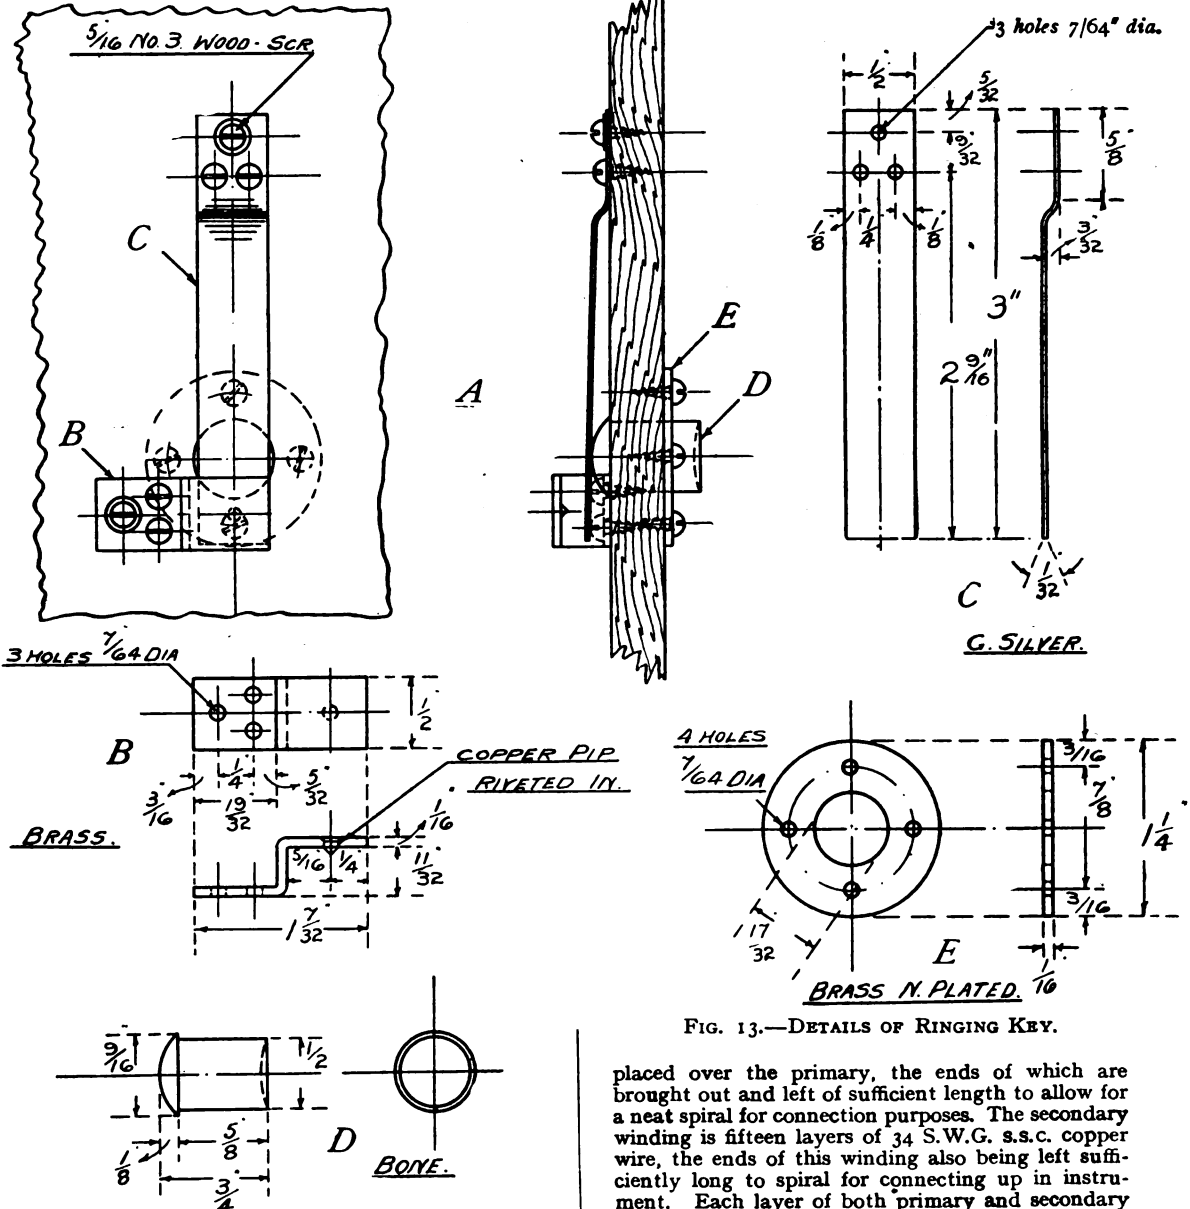

FIG. 13.—DETAILS OF RINGING KEY.
The complete key is shown in A, Fig. 13, and consists of German silver spring (C), plunger (D), brass bracket (B), and brass escutcheon (E). The brass bracket B can be made from sheet brass bent to drawing, with a copper or silver pip riveted in to give good electrical contact. The finish can be either dull plated or lacquered, care being taken in the latter case not to cover the contact. The spring C can be either made of German silver or brass, cut and drilled to drawing. The electrical contact is improved by soldering on a silver disc where